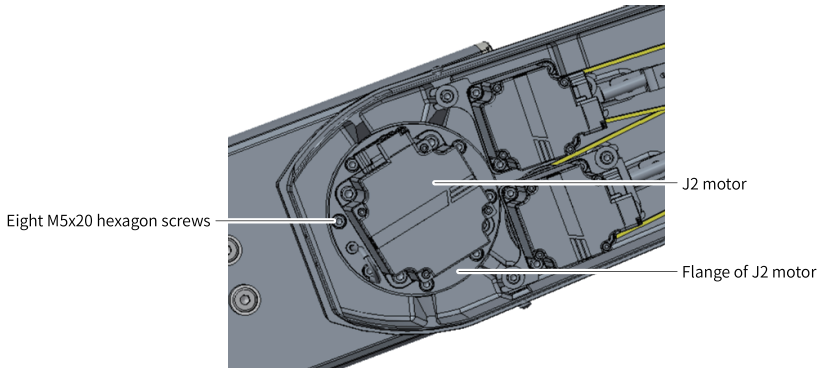

Figure 5-13 J2 motor and forearm assembly
5. Install the motor flange, waveform generator, and waveform generator stopper in the reverse steps of disassembly to restore the J2 axis motor assembly according to "Figure 5-13" on page 44.